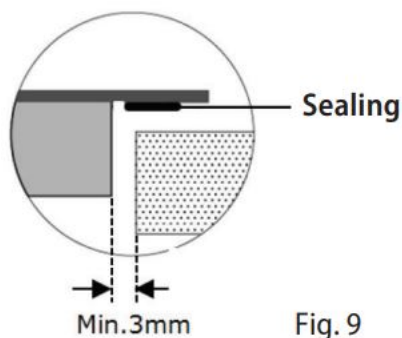

Fig. 9
11. The bottom of the hob base is fitted with a sealant to prevent it from moisture and leakage of liquids. After installation the space between the edge of the hob and the worktops should be min. 3 mm (Fig. 9).